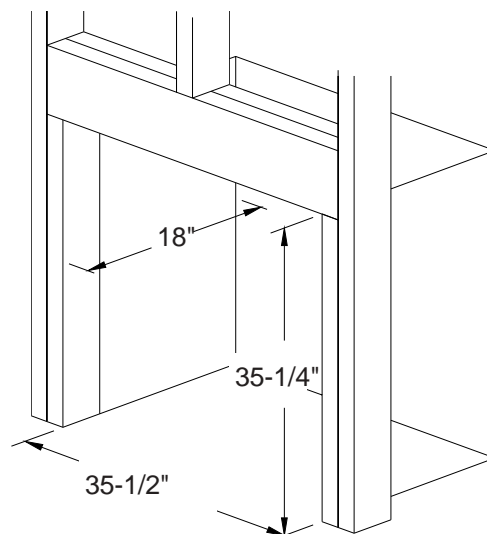

Figure 15 - Rough Opening for Installing in Wall
- Frame in rough opening. Use dimensions shown in *Figure 15* for rough opening.
If installing in a corner, use the dimensions shown in *Figure 16* below for the rough opening. The height is 35", which is the same as the wall opening in *Figure 15*, page 18.